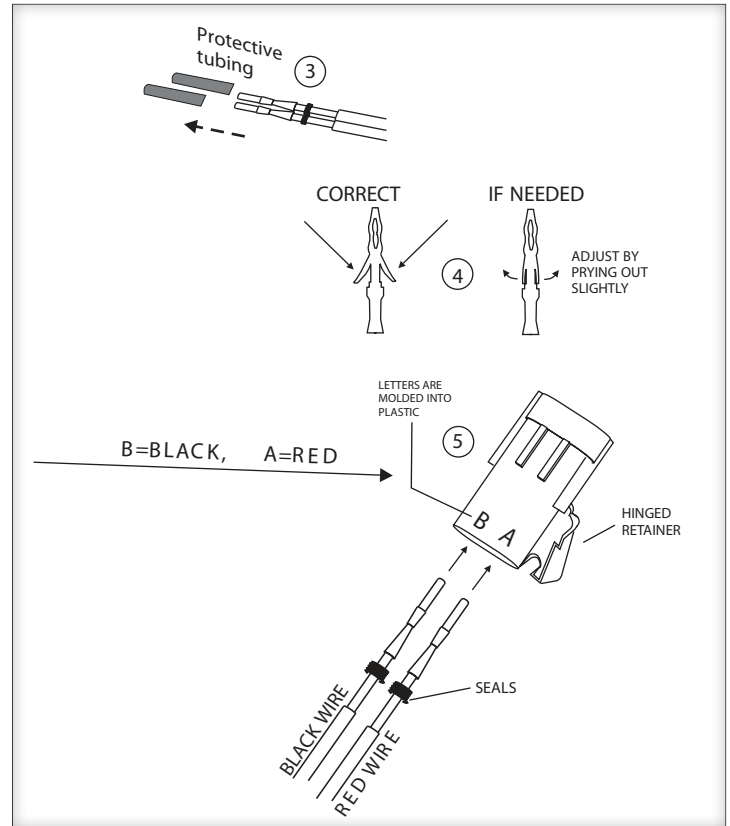

Figure 18-2
**6. Flip open end connector's jigned retainer, insert pins as shown.** [Figure 18-2]